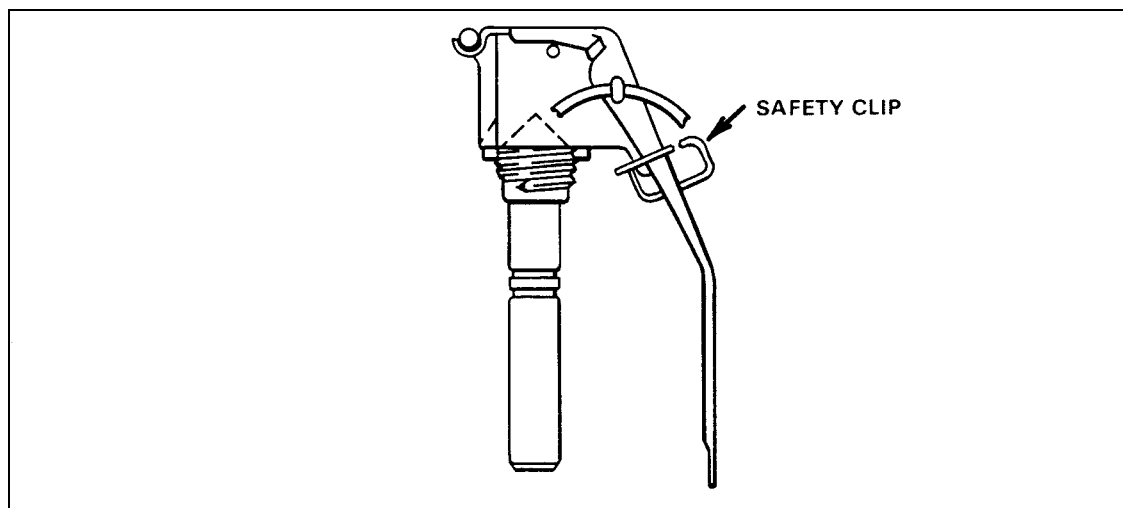

Figure 1-3. M213 fuze.
(1) *M213 fuze.* The M213 fuze (Figure 1-3) is designed for use with the M67 fragmentation grenade. It has a safety clip. The standard delay element is a powder train requiring 4 to 5 seconds to burn to the detonator. In some cases, the delay element may vary from less than 4 seconds to more than 5 seconds due to defective fuzes.